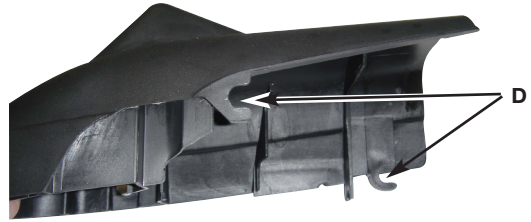

Fig. 34
4. Install air filter. Install engine / air filter cover. Make sure latches (D) are hooked under slots (E) Fig. 35 and cover fit properly. Tighten the cover retaining knob securely. (Fig. 34)